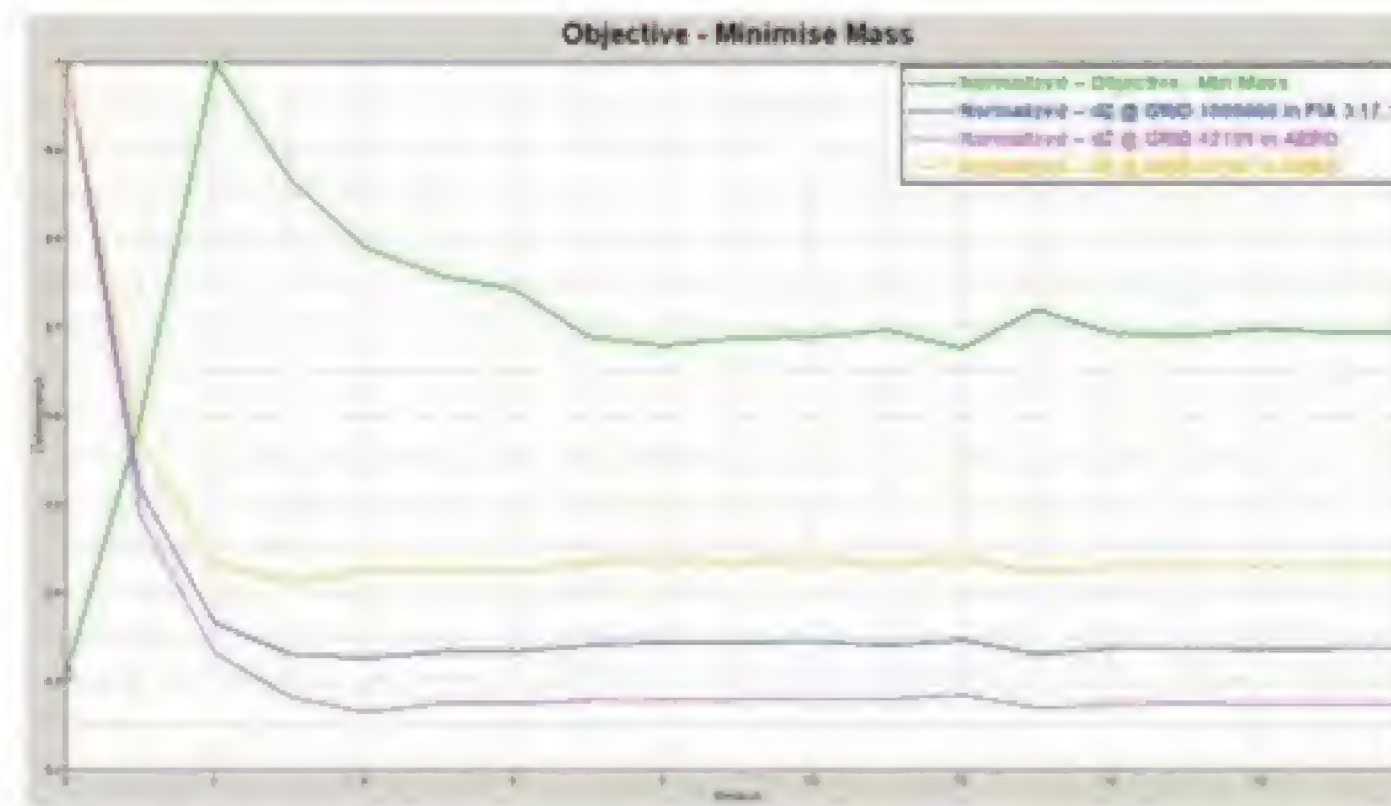

Figure 3: Normalised Convergence Curves
- The analysis converged in 14 iterations (see Figure 3)